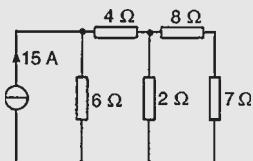

Figure 13.62
**Problem 17.** Determine the current flowing in the 2 Ω resistance in the network shown in Fig. 13.62